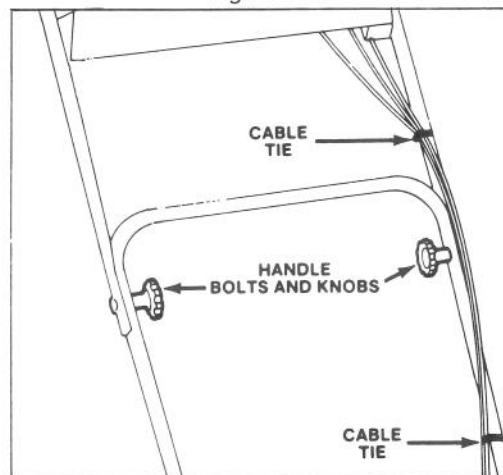

Figure 2
2. **UPPER HANDLE (Fig. 2)** – Secure upper and lower handles in place with handle bolts and knobs. Control cables must be in front of lower handle cross member. Secure control cables in position with cable ties.